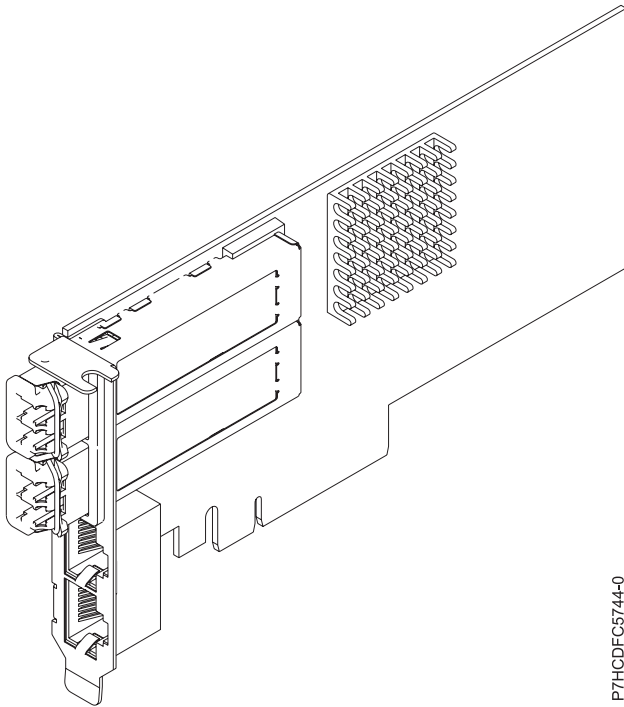

Figure 30. PCIe2 2x10GbE SR 2x1GbE UTP Adapter
The PCIe2 2x10GbE SR 2x1GbE UTP adapter is a PCI Express generation-2, four-port Ethernet unified wire adapter with a PCI Express 2.0 host bus interface. The adapter is optimized for cloud computing, virtualization, storage, and other data center applications. The four port adapter provides two 10 Gb Ethernet ports and two 1 Gb Ethernet ports. The two 10 Gb small form-factor pluggable (SFP+) single root (SR) transceiver ports are used for connectivity with other servers or switches in the network. Each SFP+ (SR) port provides Ethernet connectivity with a nominal data rate of 10 Gbps (gigabits per second), and uses the SFP+ copper twinaxial cables up to 5 m (16.4 ft) in length. Each of the RJ45 ports provides Ethernet connectivity at a data rate of 1 Gbps. The link aggregation and failover features of the adapter are ideal for critical network applications that require redundancy and high availability. Figure 30 on page 104 shows the FC 5745 adapter.